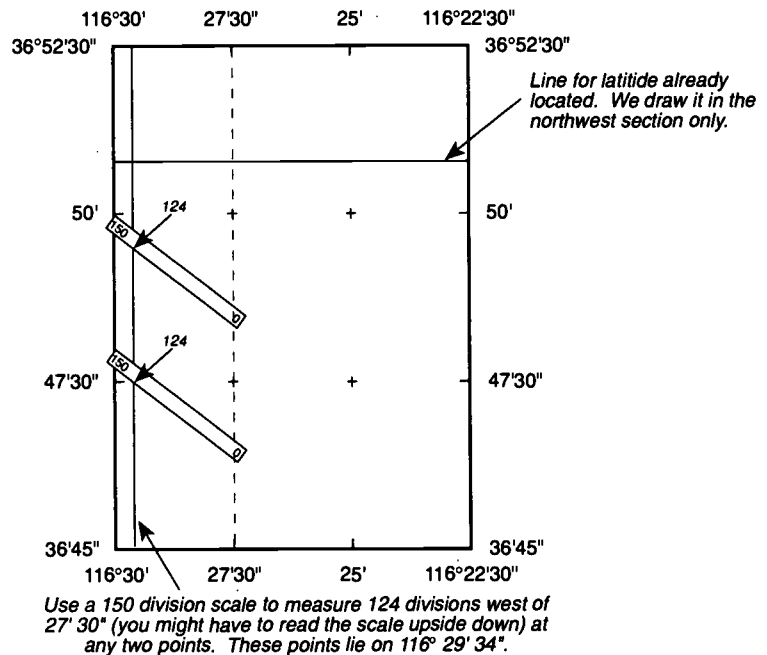

Figure 6
3. Use the method outlined in figures 6 and 7 in the reading entitled *Topographic Map Skills* to determine the longitude of a point between $81^{\circ} 30'$ and $81^{\circ} 32' 30''$. If you want to determine the longitude to the nearest second ($''$), how many divisions do you need on your scale?
8. Using the ruler, locate any two points 124" (124 divisions) west of Long W27' 30". This time you will need to hold the ruler diagonally as illustrated in Figure 6. It is important that you align either the 0 or 150 mark on the ruler with the 27' 30" line. You must align the other division mark (0 or 150) on the western boundary of the map. Count 124" west of 27' 30" and mark a point on the map. Although both ends of the ruler need to be aligned properly, they do not necessarily need to fall within the boundaries you have drawn for this section. Move the ruler, align it again, and make a second mark.